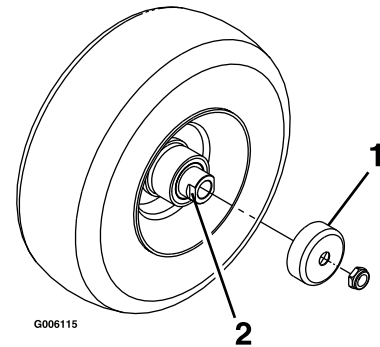

Figure 46
11. Grease the caster-wheel bearings (Figure 46).